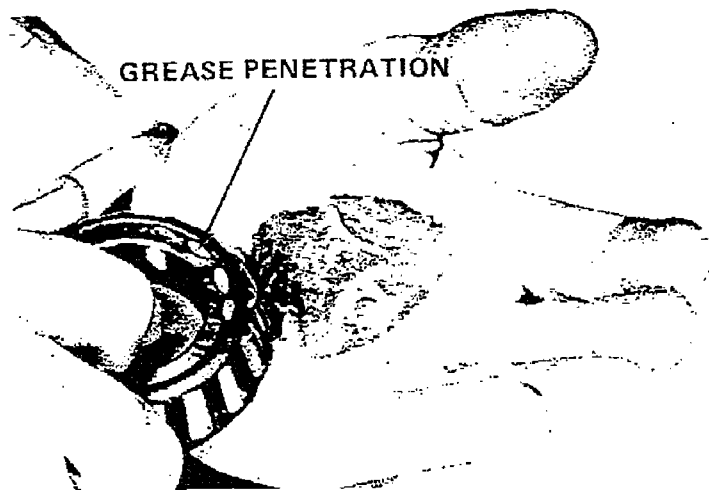

FIGURE 29
- a. Put the grease in one hand. See Figure 29.